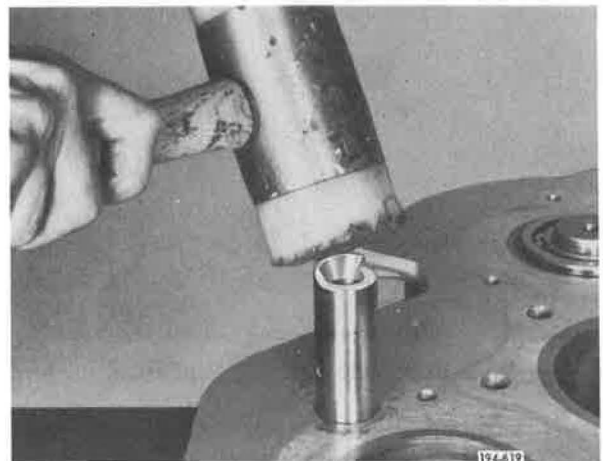

Figure 5-918. Installing Shaft
5. Drive reverse idler shaft part way into rear case with a soft mallet, being sure that reverse idler gear, bearing, and thrust washers are in proper alignment for shaft to go through them. See **Figure 5-918**.